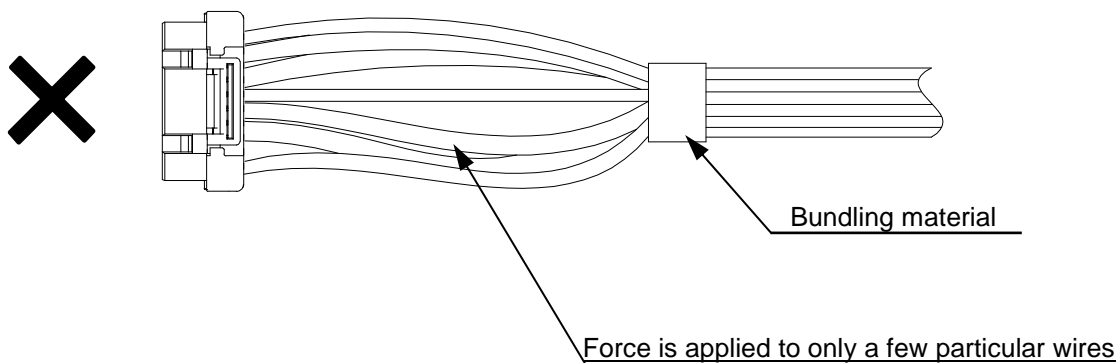

Fig.7-2 Inappropriately harnessed state
- ② As for the harness, please do not apply force to only one wire (or a few particular wires). (**Fig.7-2**)